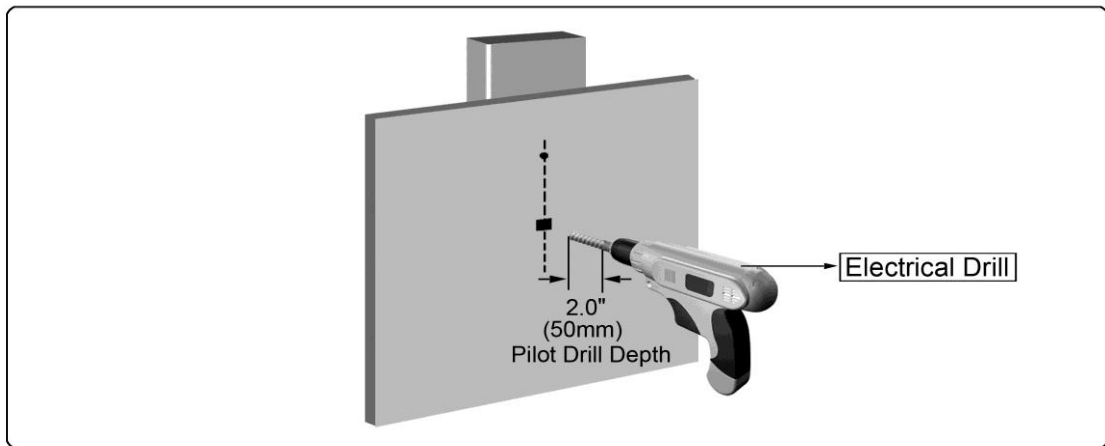

Figure 1-3
3. Use awl or stud finder to find stud location. Ensure marks are in the center of wood stud. Drill pilot holes and ensure pilot holes are straight (**See Figure 1-3**).